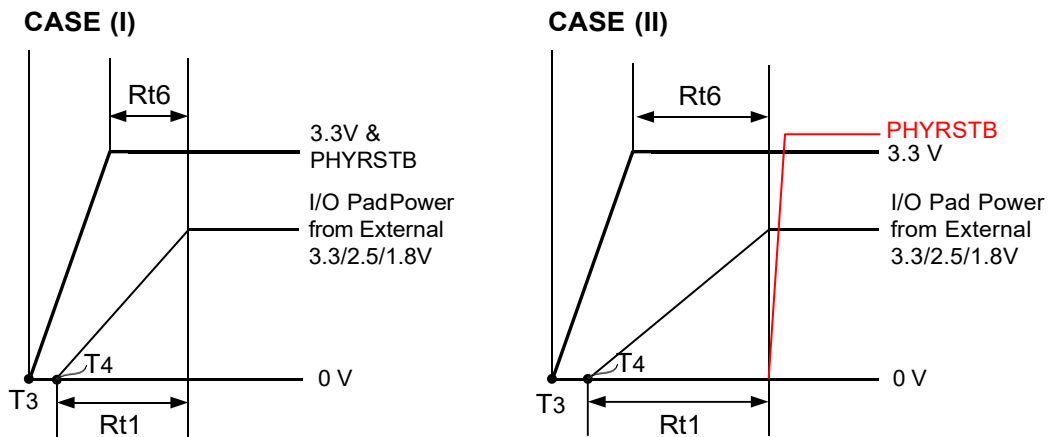

Figure 11. Power Sequence (I/O Pad Power Sourced Externally)
Note 7: When using an external power source for the I/O pad, the power should rise simultaneously or slightly later than 3.3V power, i.e. T4 to T3 in Figure 11.
Ready time of the external power should be within 5ms after 3.3V is ready. See CASE(I) in Figure 11, page 47.
PHYRSTB should be kept low until the external power is ready. See CASE(II) in Figure 11, page 47. Note that for this case, there is no constraint on the 'max' value of Rt6.